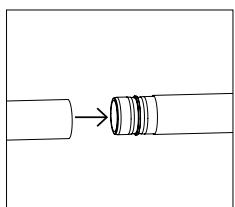

Figure 7b
- b. If connecting multiple poles together, insert the connectors and push the poles together, then put an end cap on the ends of the assembly (**Figure 7b & 7c**).